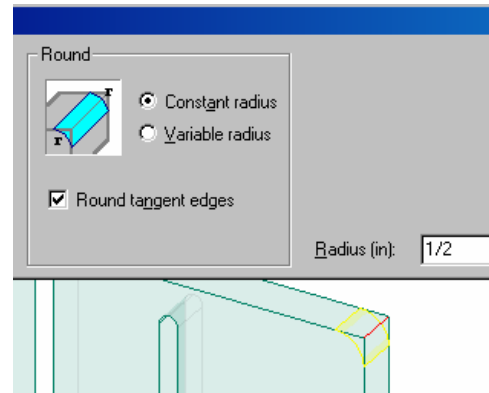

Figure 25. Rounding the top corners.
53. In the Round dialog box, set the radius to $\frac{1}{2}$ " as shown in figure 25. Notice that a trial view in yellow will show on the design.